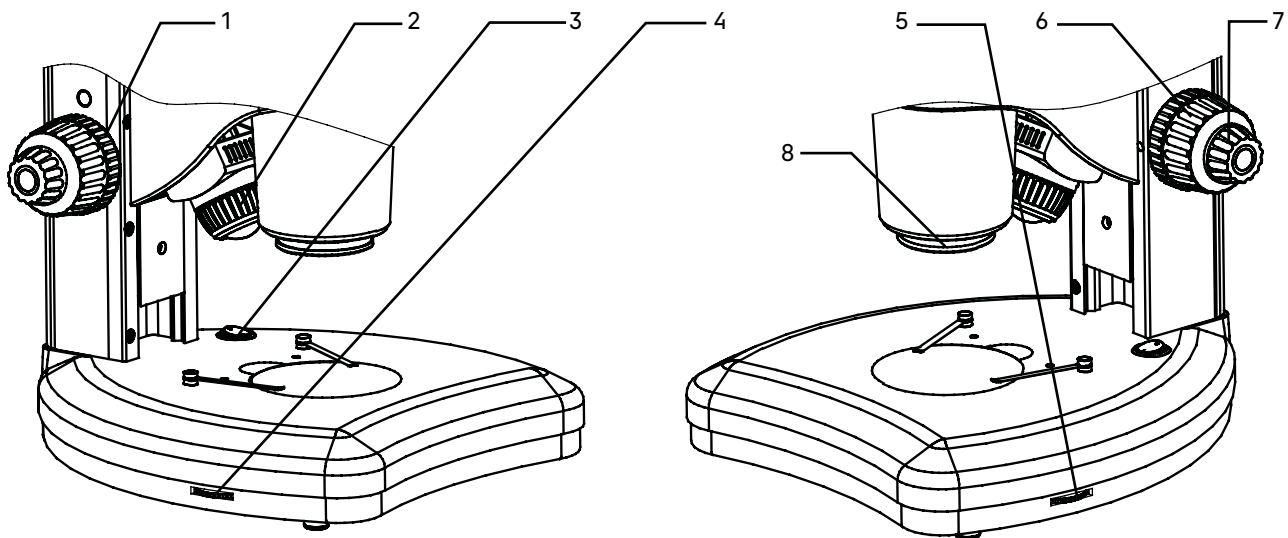

Fig. 2. Placing the specimen
Turn the ON/OFF switch **3** (Fig. 2) to "-" position (ON). Transmitted light and reflected light illuminators are switched on.
For the reflected light microscopy, the illuminator **2** (Fig. 2) is used, and its light intensity is adjusted by the ring **4** (Fig. 2). For the transmitted light microscopy, the illuminator brightness is adjusted by the ring **5** (Fig. 2).
Before switching off the microscope, rotate the rings **4** and **5** (Fig. 2) to reduce the light intensity to the minimum.
Use the ring light if you need shadow-free lighting to observe a specimen. The ring light is mounted on the groove **8** (Fig. 2).
Rotate the knobs 6 (Fig. 2) to move the focusing mechanism so that the distance between the specimen and the objective approximately corresponds to the working distance of the objective according to the specifications given in Table 2.
When using high magnification, use a fine focusing knob 7 (Fig. 2) for accurate adjustment.
The tension of the focusing knob is adjustable and is preset by the manufacturer. With properly adjusted tension, the microscope head does not lower under its own weight. If you need to adjust the tension of the focusing knob, use the ring 1 (Fig. 2). By rotating it counter-clockwise, you loosen the tension, and by rotating it clockwise, you tighten it. Too high a tension can cause inconvenience in the operation.